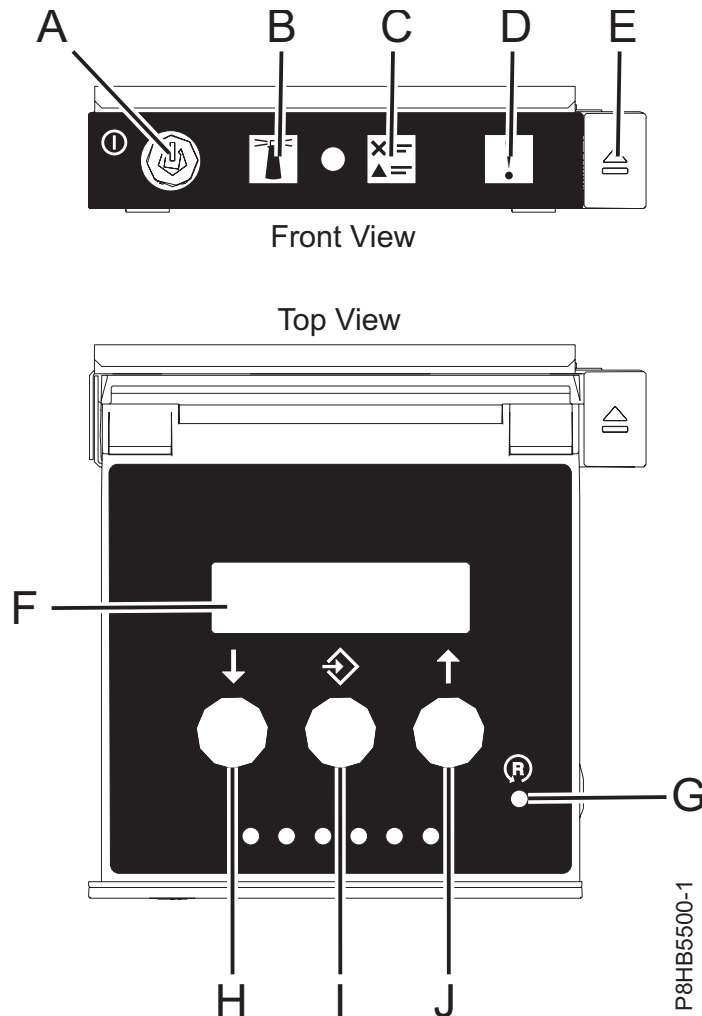

Figure 57. Pinhole switch that is on the control panel
If you are still not able to access the service network, reset the service processor by pressing the pinhole switch (G) on the control panel. See Figure 57.